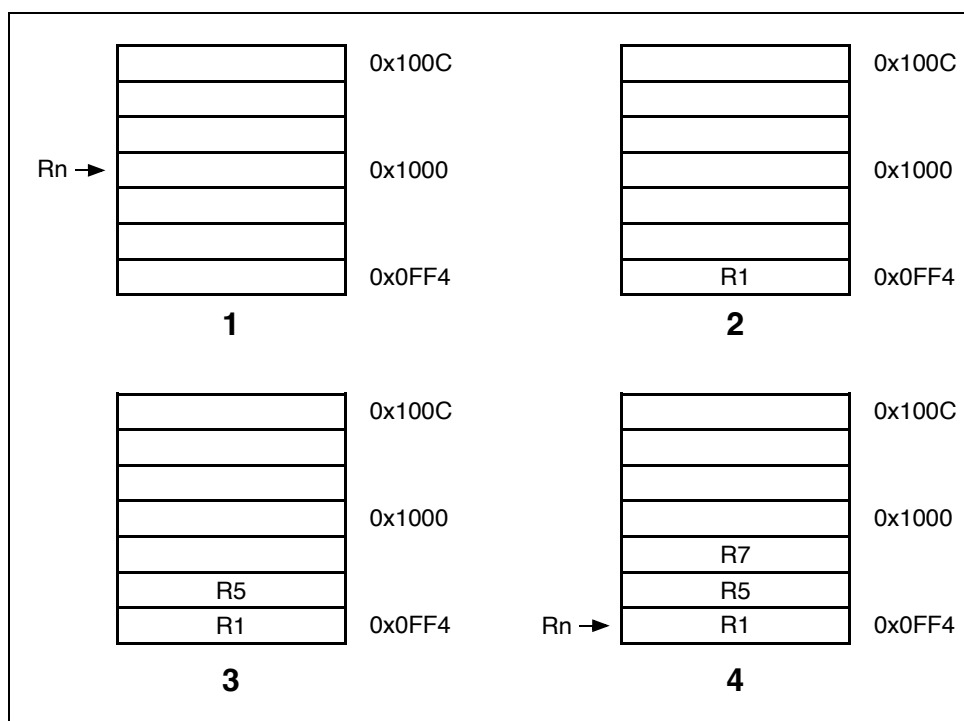

Figure 4-22: Pre-decrement addressing
*decrement addressing* on page 4-39 and **Figure 4-22: Pre-decrement addressing** on page 4-40 show the sequence of register transfers, the addresses used, and the value of Rn after the instruction has completed.